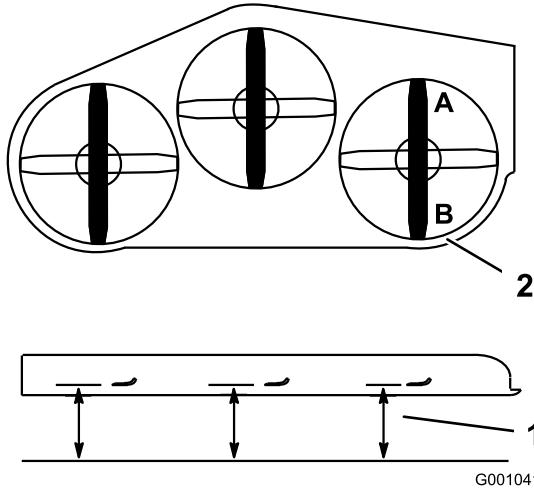

Figure 76
1. Position the **right** blade front-to-rear (Figure 76).
2. Measure the right blade at the **A** location, from a level surface to the cutting edge of the blade tip (Figure 76).
4. Measure the right blade at the **B** location, from a level surface to the cutting edge of the blade tip (Figure 76).
6. The mower blade should be a 1/4 to 3/8 inch (6 to 10 mm) lower at position **A** than at position **B** (Figure 76). If it is not correct, proceed to the following steps.